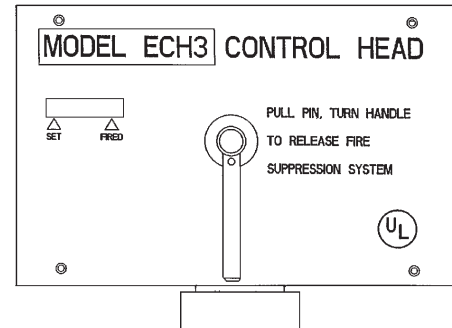

FIGURE 6
The Model ECH3 electric control head is an electrically operated control head which can be connected to the A-15/17/25/35/70 tank valve. This control head will support an electric thermal detection system, a remote mechanical pull station (Model RPS-M), and an electric gas shut-off valve. It will not support a fusible link detection system. A micro switch (Model MS-DPDT) is included. The Model ECH3 control head is available in both 120 VAC (Model ECH3-120) and 24 VDC (Model ECH3-24). It is equipped with a local manual control handle that allows for mechanical system actuation. Operation of the local manual control requires removing the pull pin and rotating the handle clockwise. The Model ECH3 control head can actuate a maximum of five (5) tanks. See Figure 6.